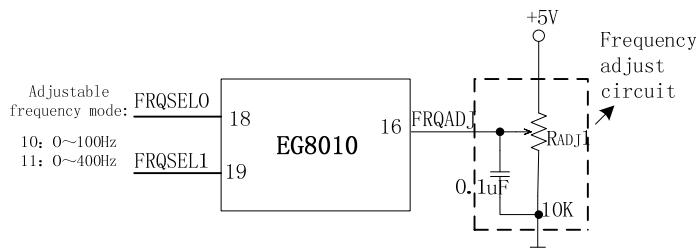

Figure 8.6a EG8010 Frequency adjust circuit
ASIC for single-phase SPWM control mode, “00” outputs 50Hz frequency and “01” outputs 60Hz frequency. FRQADJ has no function in constant mode. Pin (16) is used as VFB2 voltage feedback circuit under bipolar modulation. In adjustable frequency mode, “10” outputs frequency in range of 0-100Hz and “11” outputs frequency in range of 0-400Hz. Pin FRQADJ adjusts the frequency as shown in figure 8.6a. Pin FRQADJ’s voltage varies from 0-5V, which is corresponding to the fundamental wave output frequency from 0-100Hz or 0-400Hz. This function accompanies with pin VVVF can be used in the single phase frequency transformer system.